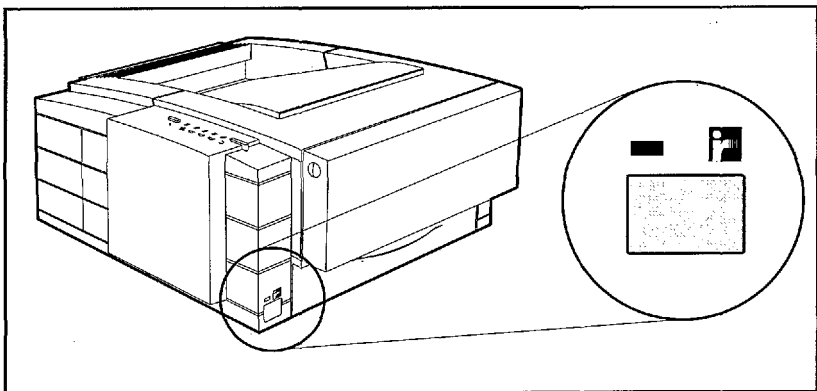
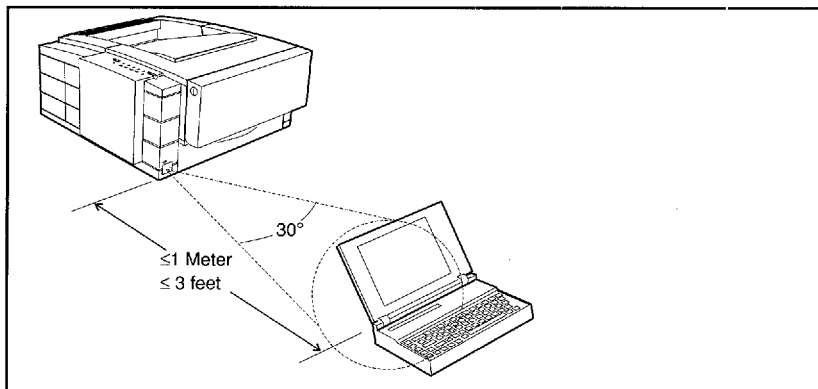

Figure 8 IrDA Port Location
Figure 9 IRDA Port ranges
The infrared (IR) port on your HP LaserJet 5P or 5MP printer is located on the lower front left corner of the printer (Figure 8). This port is compliant with the specifications determined by the Infrared Data Association (IrDA). Just above the port is a status light that indicates when the port is activated. To use the IR port, you need to use a portable device that also includes an IrDA-compliant IR port and be within the range of operation (see Figure 9).
(1 m) of the IR port on the printer and at an angle of  $\pm 15$  degrees to ensure printing (Figure 9).